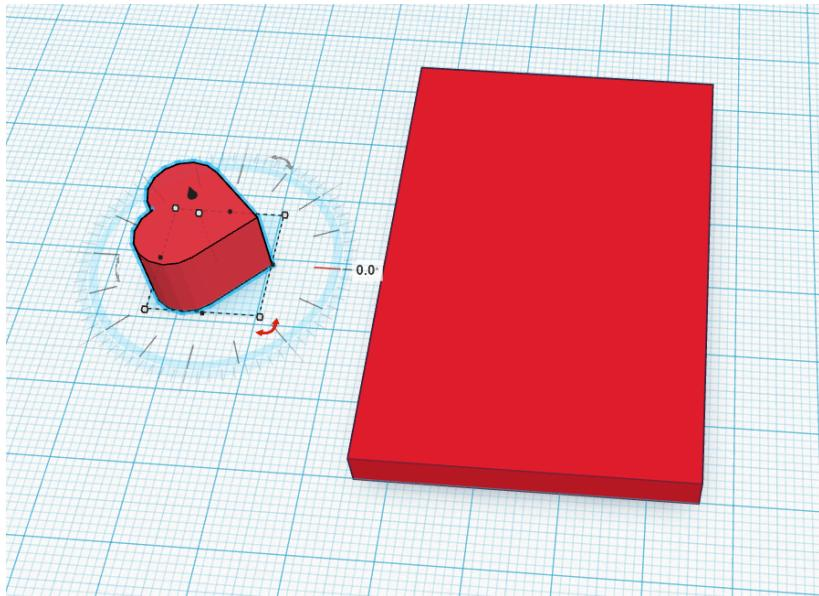

Figure 9-13. Stock heart shape rotated to a specific angle
- Use the rotation arrow in the navigation tool to rotate it 90 degrees counterclockwise. Your Workplane should look like Figure 9-13.